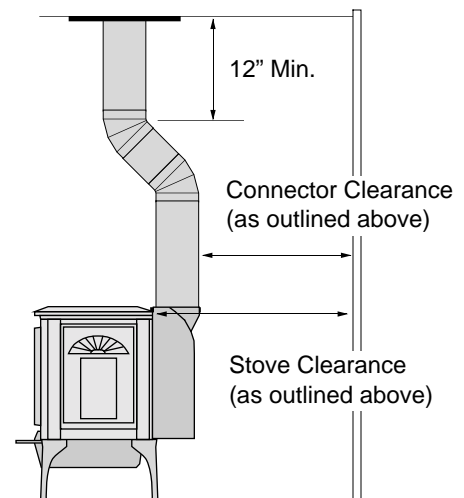

Figure 12
- If using offsets, use the connector clearance listed in Figure 12, **not the connector manufacturer's clearance.**